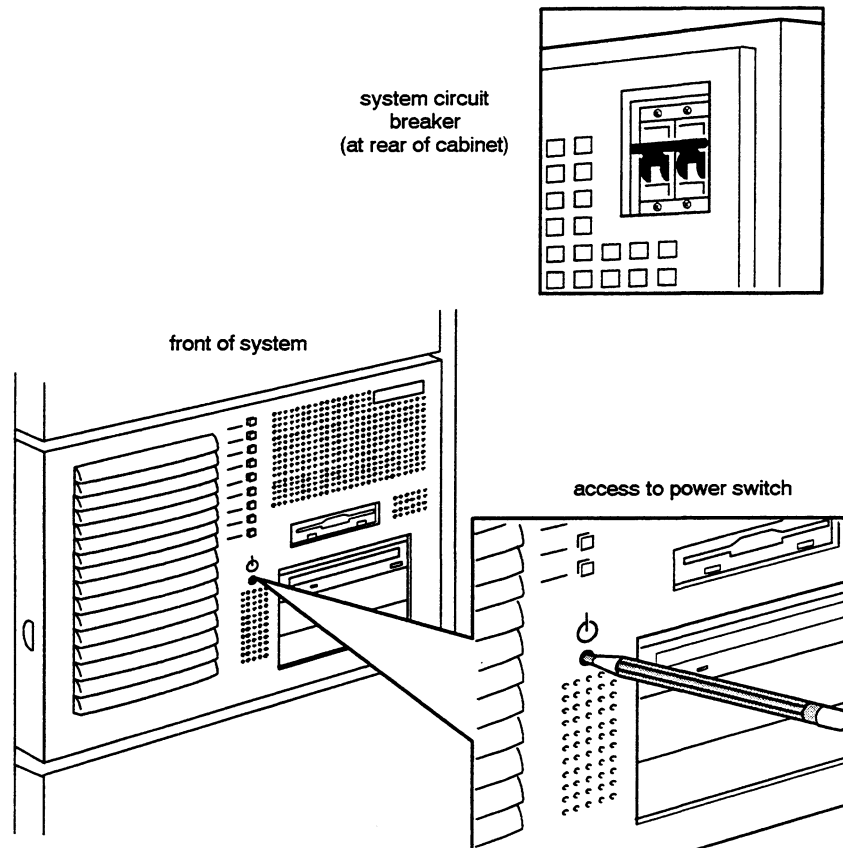

Figure 1-3 Powering up the system
1. Turn the cabinet's primary circuit breaker off (see Figure 1-3).
3. Set the AV 3600R power switch to ON (see Figure 1-3). You access the power switch by inserting a small blunt instrument through an access hole in the front panel. Press the power switch to turn on the power.
IMPORTANT Under normal circumstances, you should use the cabinet's primary circuit breaker (Figure 1-3) to turn system power off and on, not the power switch.